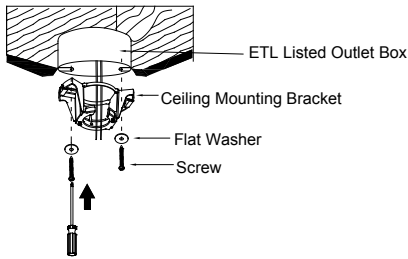

Fig. 4
Step 1. Assemble the ceiling bracket to ceiling junction box using the screws and washers supplied with the ceiling junction box. (Fig. 4)